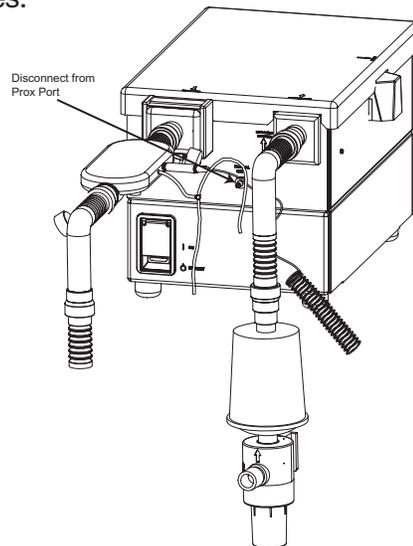

Figure 6-6 Proximal Pressure line disconnected
- 4 Disconnect the proximal pressure line from GDU during the inspiratory phase (see Figure 6-6). Verify that the ventilator continues to deliver pressure control breaths and that the pressure is displayed on the pressure bar graph. Verify that the **Prox Line Disconnect** message is displayed, the audible alarm sounds, and the **Patient** alarm indicator flashes.